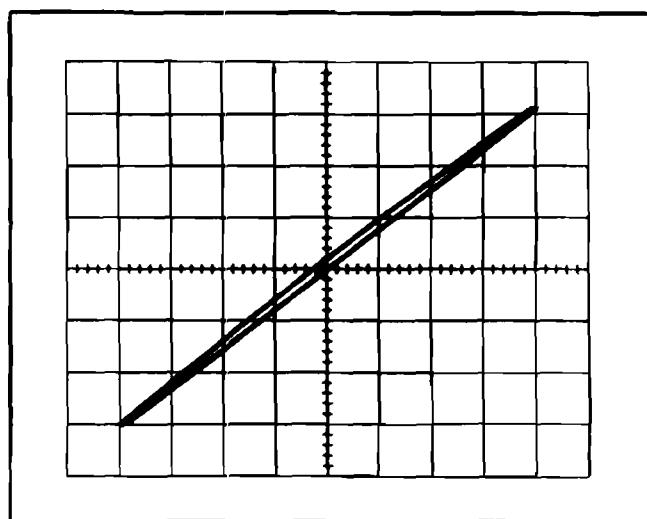
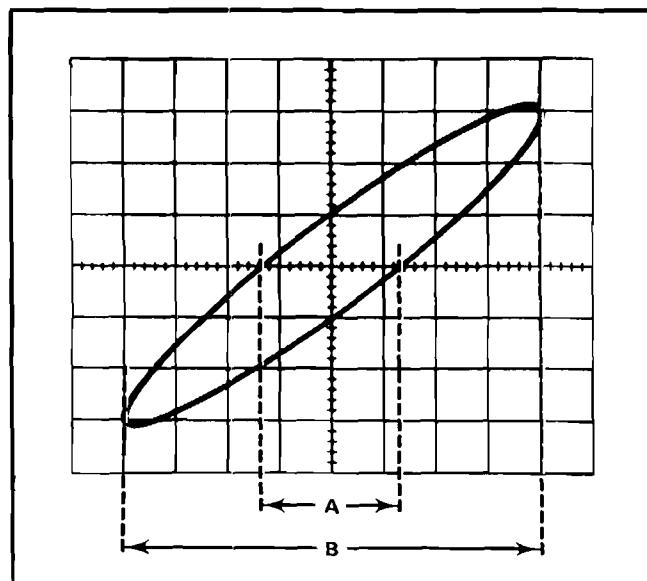

Fig. 2-16. X-4 display showing phase shift.
Fig. 2-17. Phase-difference measurement from an X-Y display.
3. Connect the same signal to both EXT VOLTS IN connectors. Use the Amplifier VARIABLE controls to obtain a display less than 8 divisions vertically and less than 10 divisions horizontally. Measure and record the inherent phase shift for the oscilloscope system being used. See Fig. 2-16.
5. Center the display in relation to the vertical graticule line. Measure the distances A and B as shown in Fig. 2-17. Distance A is the horizontal measurement between the two points where the trace crosses the center horizontal reference line. Distance B is the horizontal width of the display.
Example. The phase angle shown in Fig. 2-16 is approximately 2° and in Fig. 2-17 the phase angle is 18° .